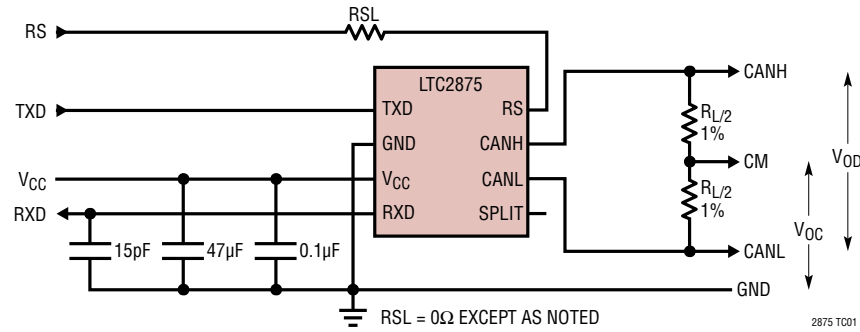

Figure 1. All Electrical Characteristic Measurements
**ELECTRICAL CHARACTERISTICS** The ● denotes the specifications which apply over the full operating temperature range, otherwise specifications are at  $T_A = 25^\circ\text{C}$ .  $V_{CC} = 3.3\text{V}$  or  $5\text{V}$ , Figure 1 applies with  $R_L = 60\Omega$ ,  $R_S = 0\text{V}$ , TYP values at  $V_{CC} = 5\text{V}$  unless otherwise noted. (Note 2)
The ● denotes the specifications which apply over the full operating temperature range, otherwise specifications are at  $T_A = 25^\circ\text{C}$ .  $V_{CC} = 3.3\text{V}$  or  $5\text{V}$ , Figure 1 applies with  $R_L = 60\Omega$ ,  $C_L = 100\text{pF}$ ,  $R_{SL} = 0\Omega$ ,  $R_S = 0\text{V}$ , TYP values at  $V_{CC} = 5\text{V}$  unless otherwise noted. (Note 2)
The driver features adjustable slew rate for improved EME performance. The slew rate is set by the amount of current that is sourced by the RS pin when it is pulled below approximately 1.1V. This allows the slew rate to be set by a single slew control resistor RSL in series with the RS pin (Figure 1).